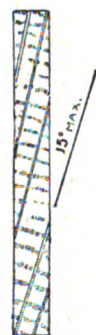
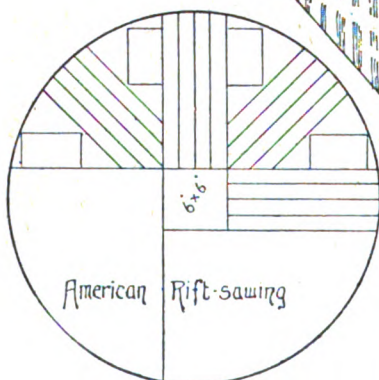
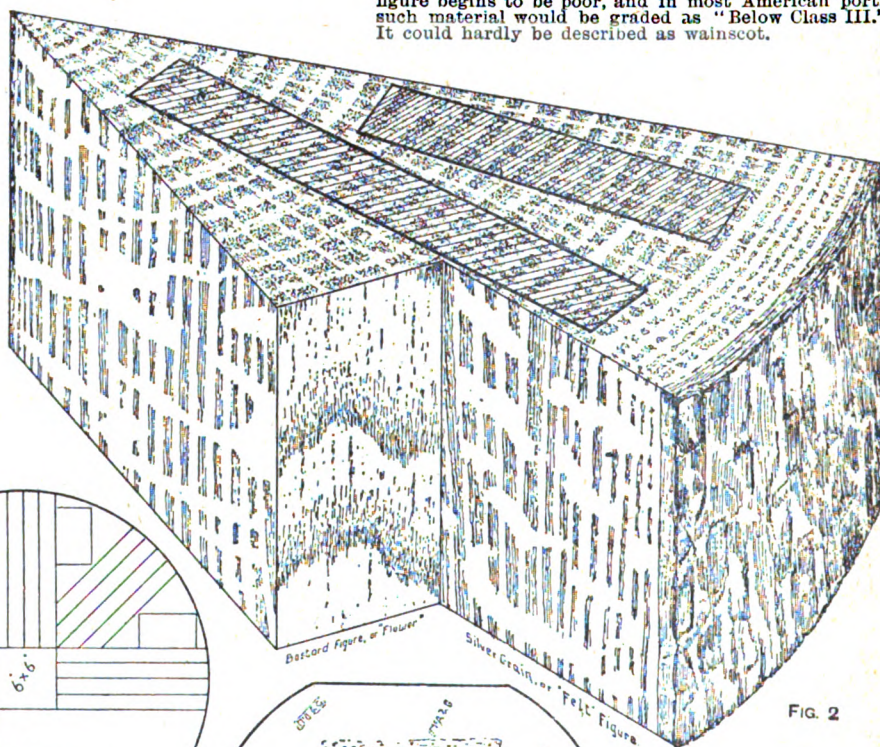

FIG. 4
FIG. 3
FIG. 2
to take the needle point, for which a piece of an upholstering needle, or the shank portion of a very fine drill ground to a point, can be used. Now get two small milled-head screws F (Figs. 1 and 3), such as are used on gas brackets to keep the globe in place, and drill and tap a hole in each head to receive them. Take four pieces of watch spring G about $\frac{1}{4}$ in. long, and bend them to the shape shown at Fig. 4; these prevent the heads cutting the beam, and at the same time hold them in position when they are being moved along the latter. The pencils supplied with most diaries and pocket-books fit the heads nicely. For the beam, a piece of black walnut of any suitable length, accurately planed to $\frac{1}{4}$ in. wide by $\frac{1}{4}$ in. thick and polished, is best. An ordinary compass pen may be made to fit into the end of the head by unscrewing it from the handle and filing it a little. Slide the heads on the beam, first placing the pieces of watch spring in the slots, the lower ones with the bend downwards and the upper ones with the bend upwards (see Fig. 1), and screw on the caps. Instead of cutting slots in the heads, holes may be drilled and a piece of steel wire used for the beam; but this does not answer so well as a flat piece of wood.
Construction of Folding Hand Camera.—Instructions on making a quarterplate folding hand camera are here given. From $\frac{1}{2}$ in. mahogany cut a piece 11 in. by 5 in. (A, Fig. 1). The rails BB (Fig. 1), shown in section in Fig. 4, should be fitted as shown $\frac{1}{4}$ in. from the front and $\frac{1}{4}$ in. from the back. Now cut the two posts CC $\frac{1}{4}$ in. square and 4 in. long, and join with the cross-pieces D and D'. Cut and bend the plate E (Fig. 4) to fit the rails B; see that it runs smoothly, then screw into D. Now cut the board A (Fig. 1) in two pieces straight across 4 in. from the back, and hinge together again underneath. Cut three pieces F, G, and H; F is 7 in. by 4 in., G 7 in. by 3 in., and H 4 in. by $\frac{1}{4}$ in. In F and G cut the two slots I (the arc being formed with a radius of M) and join all together with A and K, leaving an opening between K and G for the insertion of the dark slide. Next construct a framework L (Fig. 2) 6 in. by 4 in., canting the top and bottom slightly to permit of swing. Fit in this another frame (to which the bellows is fastened) $\frac{1}{4}$ in. wide at the sides and 1 in. at the top and bottom. Pivot the sides of the swing frame to F and G at M and N, and fix the thumbscrews I and I'. Having got this to work smoothly, remove the frame and form two tongues Y Y, $\frac{5}{8}$ in. apart, running from F to G. These form guides or stops for position of dark slide. Now cut two thin brass springs O and screw to the sides of the frame above and below the tongues. Next make the
Making Glass-fronted Hanging Cupboard.—Fig. 1 is an elevation of a small glass-fronted cupboard suitable for hanging on a wall. The top is $1\frac{1}{2}$ in. thick, the bottom 1 in. thick, and the sides and back $\frac{3}{4}$ in. thick. The sash forming the door is $\frac{3}{4}$ in. thick, finished size. The top is rebated and moulded, the moulding being returned along the ends to form a small cornice (see Figs. 2 and 5); the bottom is prepared in a similar manner (see Fig. 3). The ends are rebated front and back (see Fig. 4). Fig. 5 shows how the end is fixed to the top and bottom, whilst Fig. 6 gives a
it is called, in plank and in board. To obtain the figure it is necessary that the faces of the planks and boards coincide, as near as may be, with the direction of the medullary rays: the more nearly they do this, the higher the class of wainscot produced. Fig. 2 shows the ideal system of wainscot cutting, where each board in the log is made to fall exactly on the lines of the medullary rays. This method of cutting is expensive, and necessarily involves much waste of material. In America, where the production of good wainscot stuff is now receiving special attention, the modified system shown in Fig. 3 appears to be most popular. The figure in the outer boards of each group is obviously not so good as it is in the centre ones. When the divergence between the line of the ray and the face of the board is greater than 15° (see Fig. 3) the figure begins to be poor, and in most American ports such material would be graded as "Below Class III." It could hardly be described as wainscot.
battens with galvanised-iron nails. If corrugated iron sheets 5 ft. long are used and of say No. 20 or No. 24 gauge, they will reach over two batten spaces and allow of 4 in. overlap at the ends. The sheets are usually fastened with round-headed galvanised screws screwed through ridges, not hollows, in the sheets, as shown in Fig. 2. By this arrangement the screw is kept clear of water flowing down the sheet. Corrugated-iron ridging can be procured or a wooden ridge covering can be made. For securing the sheets at the gables, the best plan is to make wooden barge-boards, as shown in Fig. 3, with a top table projecting 3 in. or 4 in. over the edge of the sheets. To carry the gutters without fixing brackets to the walls, some simple form of iron bracket can be nailed to the sides of the rafters or principals, as shown in Fig. 4.
Developing Length of Arc.—The length of an arc cannot be developed accurately by geometrical means, but for all practical purposes the two following methods will be found adequate. In Fig. 1, let A B be the arc whose length is required. Draw the chord B A and produce it to C, making A C half the length of B A. From C, with the radius C B, draw part of a circle, and from A draw the tangent A D, cutting this circle in the point D. Then the line A D will be approximately equal in length to A B, being a trifle short of the real length. If the arc subtends an angle of 60°, the error will be about one-thousandth part of the length. The second method is more accurate, giving results a trifle full. Let A B in Fig. 2 be the arc whose length is required, and C the centre of the circle of which it forms a part. Bisect the arc in D, and bisect D A in E. Draw C E and produce it. From A draw the tangent A F, cutting C E produced in the point F. Draw the straight line B F. Then a straight line of the length A F + F B
will be approximately equal in length to the arc A B. Apart from geometrical construction, the length of the arc may be measured by stepping a pair of dividers round the arc, counting the number of steps taken, and then setting out the same number of steps along a straight line. This will always give a result short of the actual length, but the smaller the opening of the dividers the more accurate will be the result. A more accurate way is to use a wheelmefer, or a special instrument called an opisometer. The length of the arc may be calculated as follows. Set out the arc either full size or to as large a scale as possible, as in Fig. 3. Measure the chord A B, bisect it, and set up a perpendicular cutting the arc in C. Measure A C, which is the chord of half the arc. The length of the arc is found by multiplying the length of A C, the chord of half the arc, by 8, from this product subtracting the length of the chord A B, and dividing the remainder by 3. If the radius of the curve is known, and also the number of degrees contained in the angle (V), the length of the arc may be calculated in another way, as follows. The circumference of the whole circle is found by multiplying twice the radius by 3.1416. Then, as the circumference contains 360°, the length of the arc will be proportionate to the number of degrees it contains, and can be arrived at by a simple rule of three sum, thus, 360° : degrees in the arc :: circumference : length of arc.